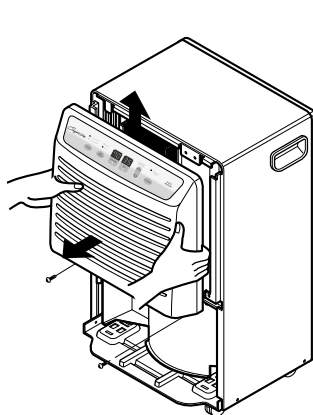

Figure 10
2. Pull the front grille forward and upward. (See Figure 10)